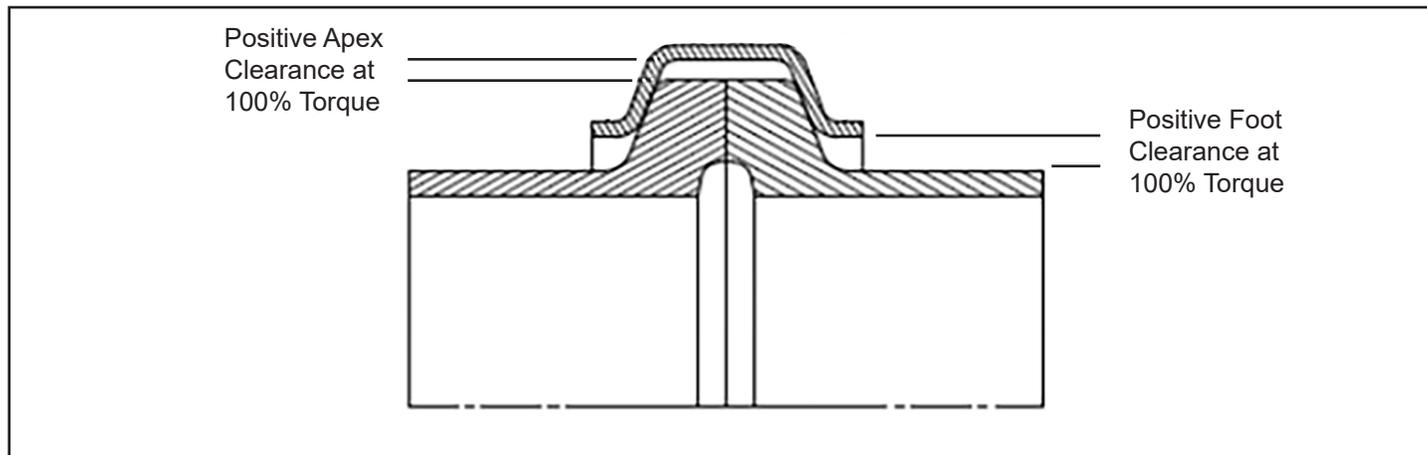

Figure 3.5 - Clearances at 100% Torque
- (10) Check the V-band apex gap and foot clearances. A clearance must be maintained throughout to prevent the clamp from bottoming out on the flanges before the required loading has been achieved. Refer to Fig. 3.5.